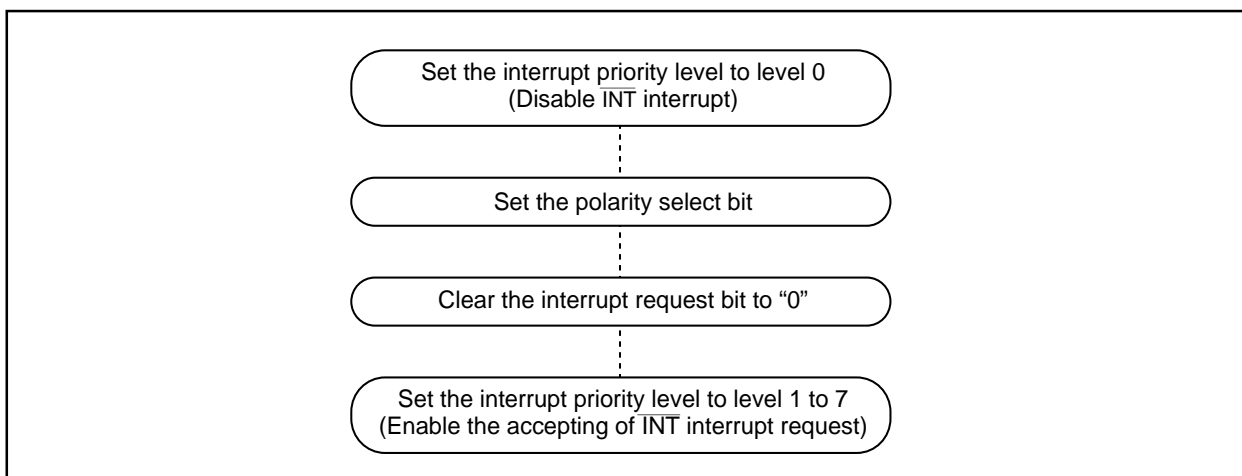

Figure 1.27.2. Switching condition of $\overline{\text{INT}}$ interrupt request
- When the polarity of the INT₀ to INT₅ pins is changed, the interrupt request bit is sometimes set to "1". After changing the polarity, set the interrupt request bit to "0". Figure 1.27.2 shows the procedure for changing the $\overline{\text{INT}}$ interrupt generate factor.